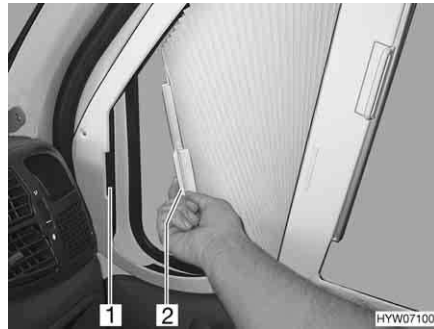

Fig. 12 Roman shade for the driver's and passenger's window
- Close the Roman shades for the driver's and passenger's window and secure them to the magnetic strips (Fig. 12,1 and 2).